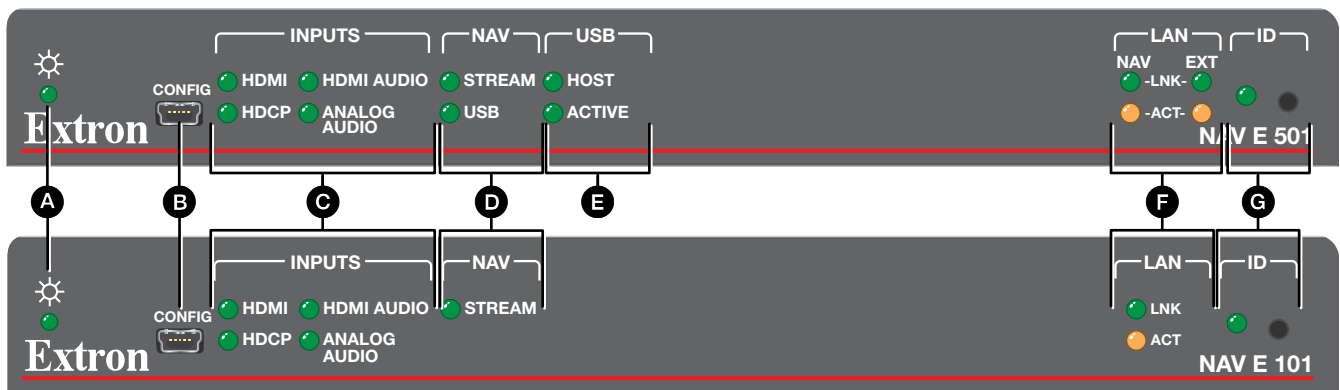

Figure 8. Encoder Front Panel Features
- ⓓ **NAV LEDs** (see figure 8 on page 11) — Indicate the output status of the AV and USB (NAV E 501 only) streams, as follows:
The encoder can be controlled and operated through either the front panel Configuration (USB) port (see figure 8, B on page 11) or the rear panel NAV 1G/PoE+ port (see figure 2, G on page 5). The Configuration port uses IP over USB technology. The factory-embedded HTML pages are always available and cannot be erased or overwritten.